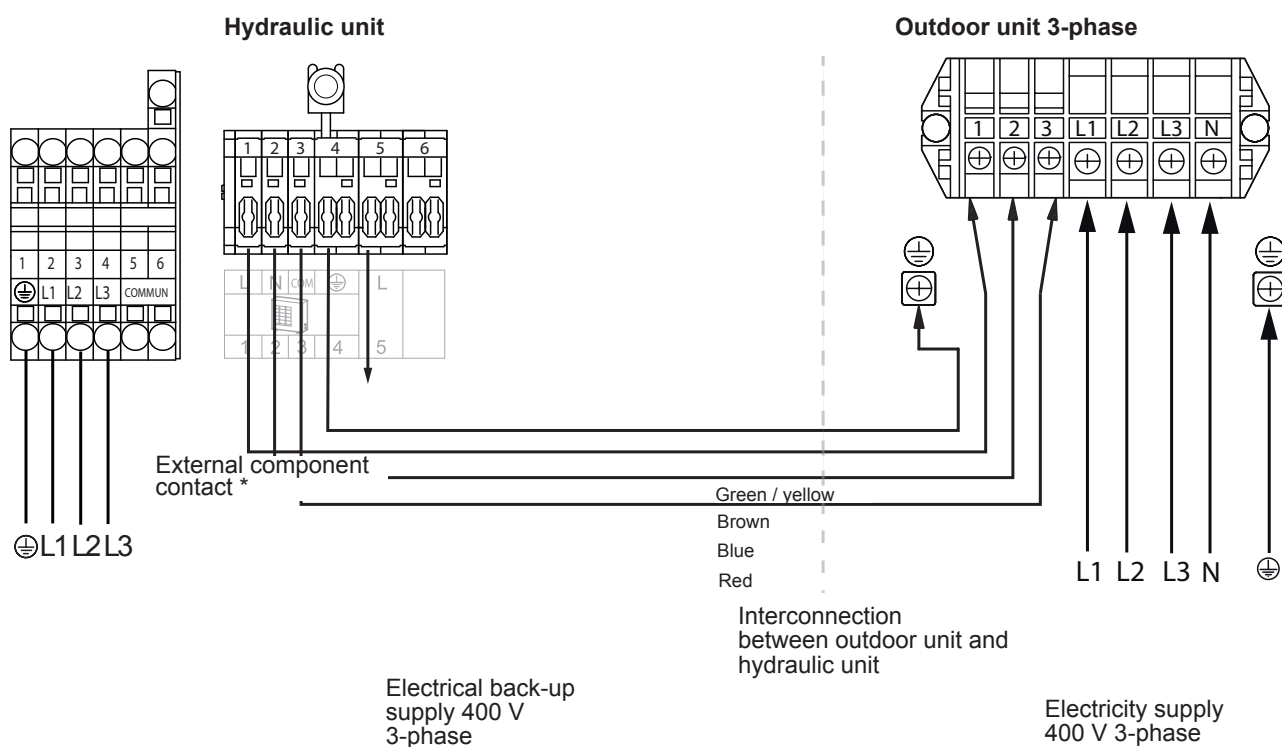

figure 38 - Connection to terminal block and power relays
- Make the connections in accordance with the diagram **figure 38, page 37**.
- Make the connections in accordance with the diagram figure 38, page 37.
- Make the connections in accordance with the diagram figure 38.